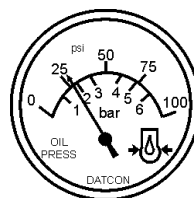

Figure 60. Oil Pressure Gauge
6. The engine oil pressure gauge (Figure 60) will indicate the oil pressure (kg/ cm²) of the engine. Under normal operating conditions the oil pressure is approximately 25 psi.